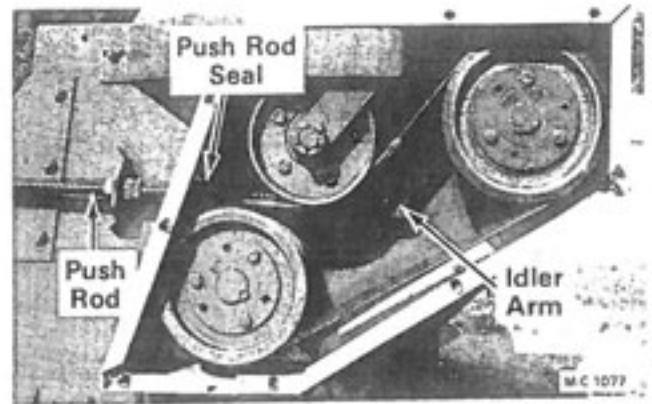

Figure 31 - Idler Push Rod Ass'y. Above S/N 50438
4. Remove the idler push rod seal, see Figure 31. Disconnect the idler push rod at the idler arm.